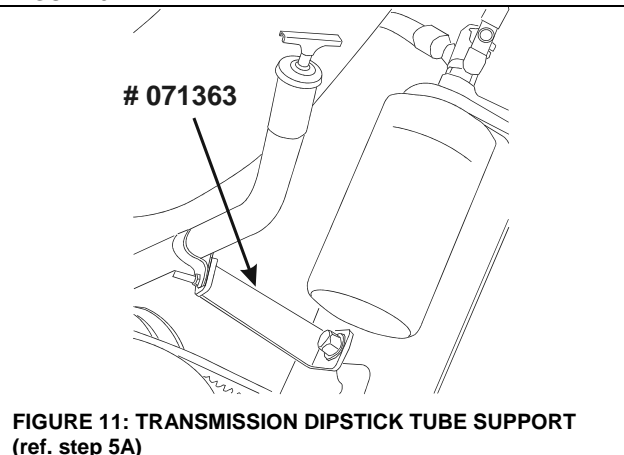

FIGURE 11: TRANSMISSION DIPSTICK TUBE SUPPORT (ref. step 5A)
5A. If the minimum clearance around the transmission oil dipstick tube cannot be met, replace the support by the new support (#071363) (figure 11). **Important**, support #071363 may have already been installed on your vehicle at the factory. Compare your support with the one of figure 11.
- 4B. If the minimum clearance around the transmission oil dipstick tube cannot be met, replace the support by the new support (#071363) (*figure 11*). **Important**, support (#071363) may have already been installed on your vehicle at the factory. Compare your support with the one of *figure 11* in part A.